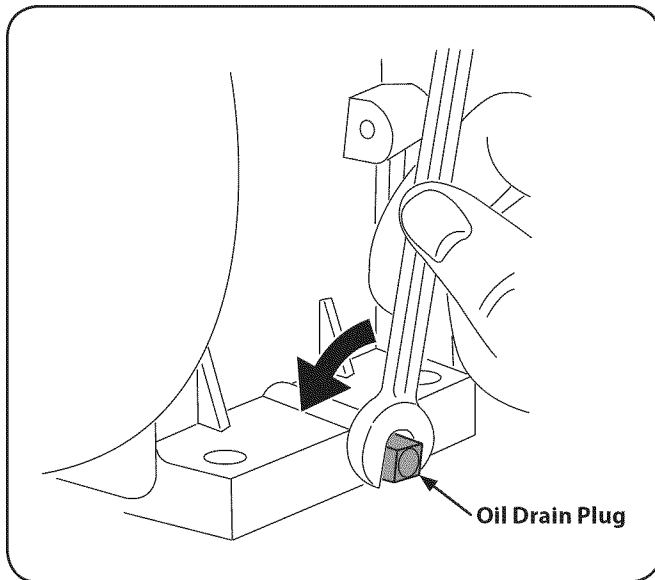

Figure 7-1
3. Remove the oil drain plug, Figure 7-1.